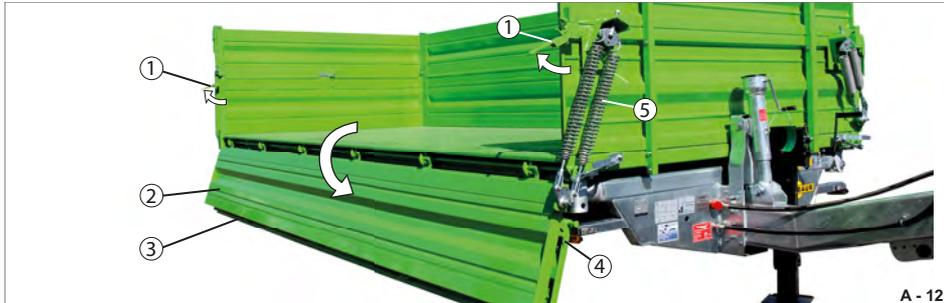

Fig. 129 Base platform gate combined with platform gate attachment folded down
- ▶ Unfasten the locks of the base platform gate (Fig. 129/1).
- ▶ Hold the base platform gate and platform gate attachment combination (Fig. 129/2 & Fig. 129/3) firmly and fold it down in a slow and controlled manner.
- ▶ Fasten the locks of the base platform gate (Fig. 129/1).